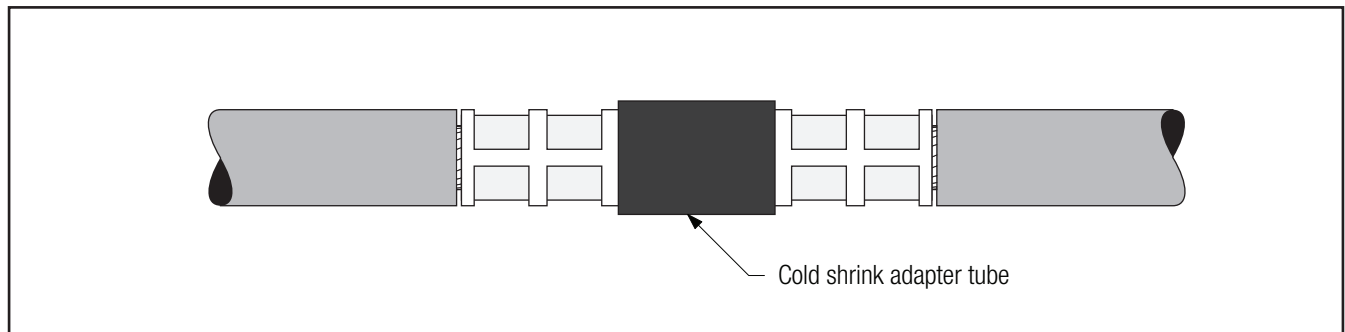

Figure 14
- 4.2 **If using cold shrink adapter tube:** Position adapter tube over the connector. Shrink adapter near the center of connector by pulling and unwinding the loose core end in a counter-clockwise direction (*Figure 14*).